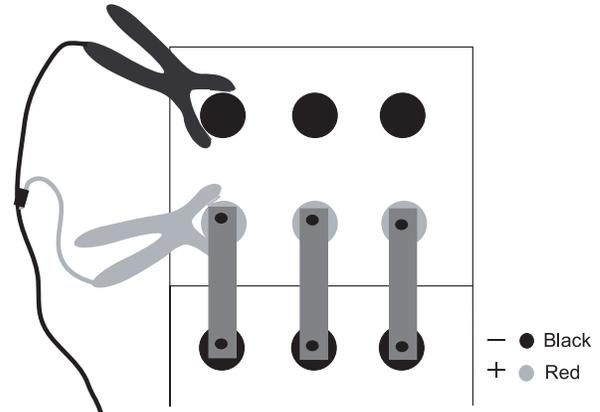

Figure 5: Attaching the cable to jar posts
1. Attach the black clamp or probe tip to the black (-) terminal. Refer to *Figure 5*.